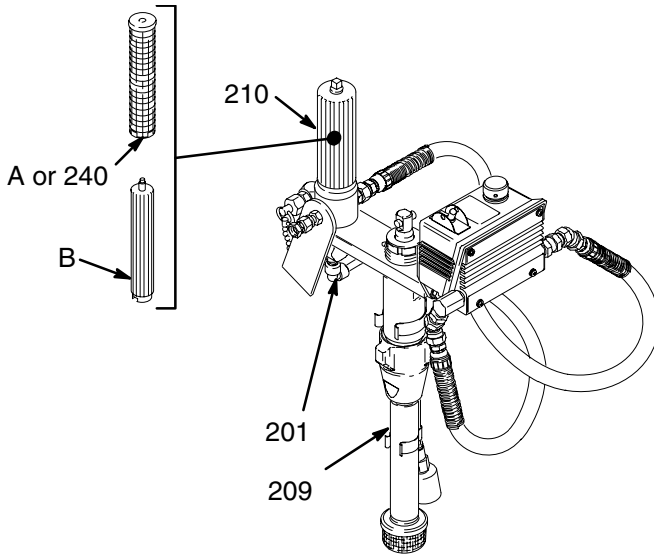

Fig 4
4. Unlock the trigger safety. Hold a metal part of the gun firmly to the side of a grounded metal pail, and trigger the gun to relieve the pressure. See Fig. 4, A.
2. Remove the bowl of the filter (210) and the screen (A or 240); see instruction manual 307273, supplied with the filter. Install the bowl and support (B), without the screen, to flush. Clean the screen separately. See Fig 4.